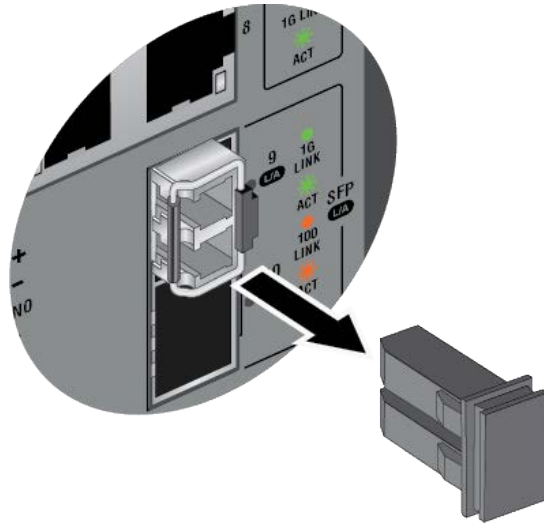

Figure 33. Removing the Dust Cover from a Transceiver
4. Remove the dust cover from the transceiver. Refer to Figure 33.